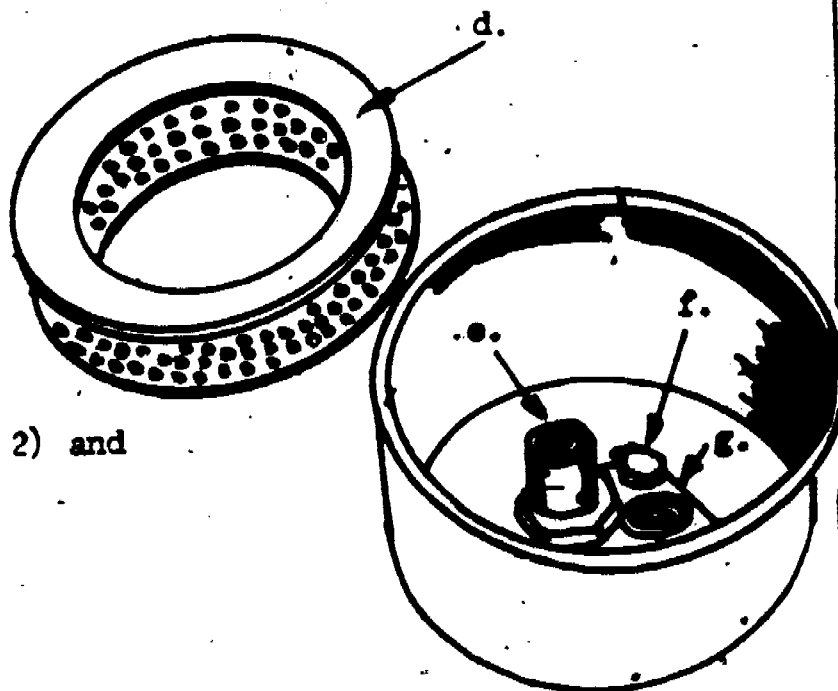

Figure 2
- STEP 4. Remove filter element (Item d in Figure 2).
- STEP 6. Remove return stud from the body assembly (Item e in Figure 2).
- STEP 7. Remove reservoir to body mounting screws and lock washers (Item f in Figure 2).
- STEP 8. Remove the reinforcement plate (Item g in Figure 2) and reservoir.